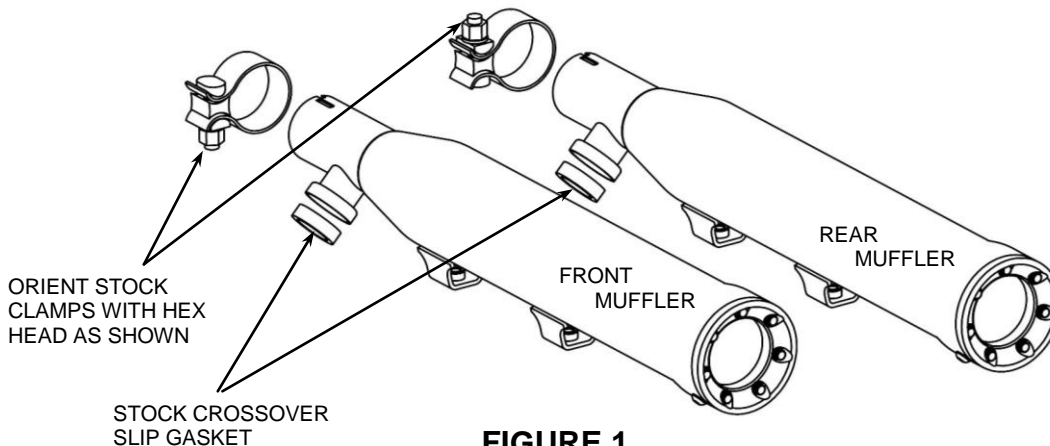

FIGURE 1
6. Position the stock clamps with hex head as shown in **Figure 1** and slide them onto the slip-on mufflers.